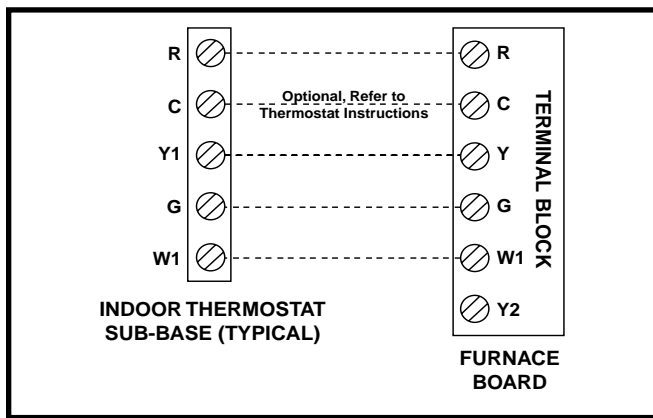

Figure 6. Typical Thermostat Connection (Field Supplied) for 1-Stage Cool / 1-Stage Heat
- This unit is designed to operate from a 24 VAC Class II control circuit. A single stage cooling / single stage heating thermostat should be used with this unit. A 2-stage cooling / 2-stage heating thermostat is recommended for economizer operation. See Figure 6 (page 12) for typical thermostat connection.